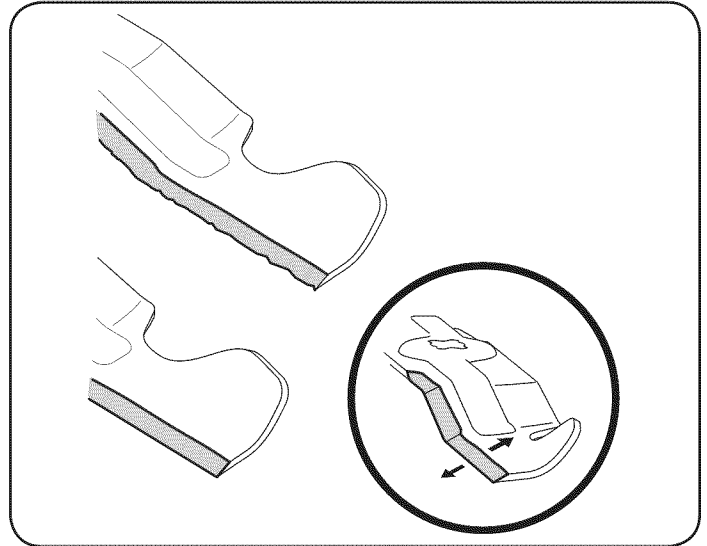

Figure 22
4. To properly sharpen the cutting blades, remove equal amounts of metal from both ends of the blades along the cutting edges, parallel to the trailing edge, at a 25°- to 30° angle. Always grind each cutting blade edge equally to maintain proper blade balance. See Fig. 22.